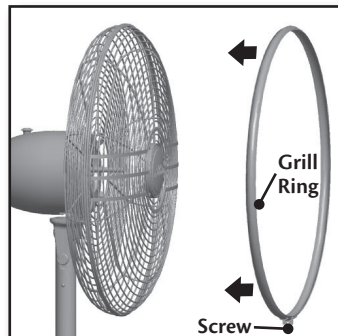

Figure 17
8. Expand the grill ring by loosening the screw that secures it. Figure 17.
9. Slide the grill ring over both front and back grills turning the ring so that the screw that secures it, is on the bottom. Figure 17.